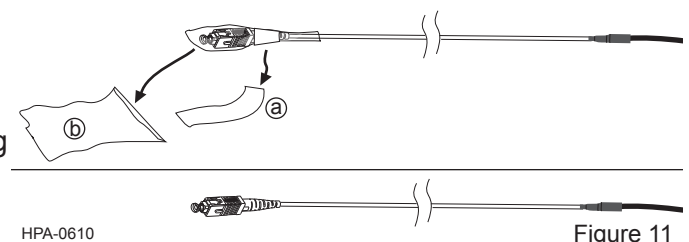

Figure 11
**4.14** After reaching the ONT, (a) remove the tape wrap which secures the protective poly bag and (b) slide the bag off the SC/APC connector (Figure 11).